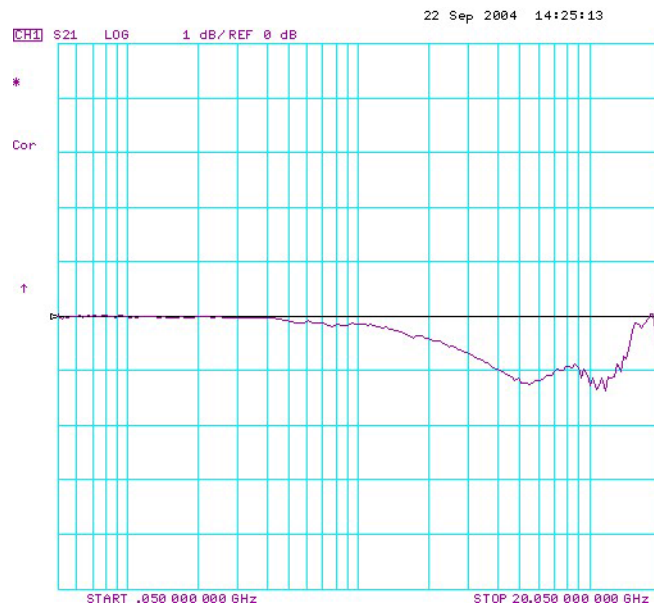

Figure 217 Typical V_{in} Waveform
- 35** The V_{in} waveform shown on screen should be similar to that shown in **Figure 217**.